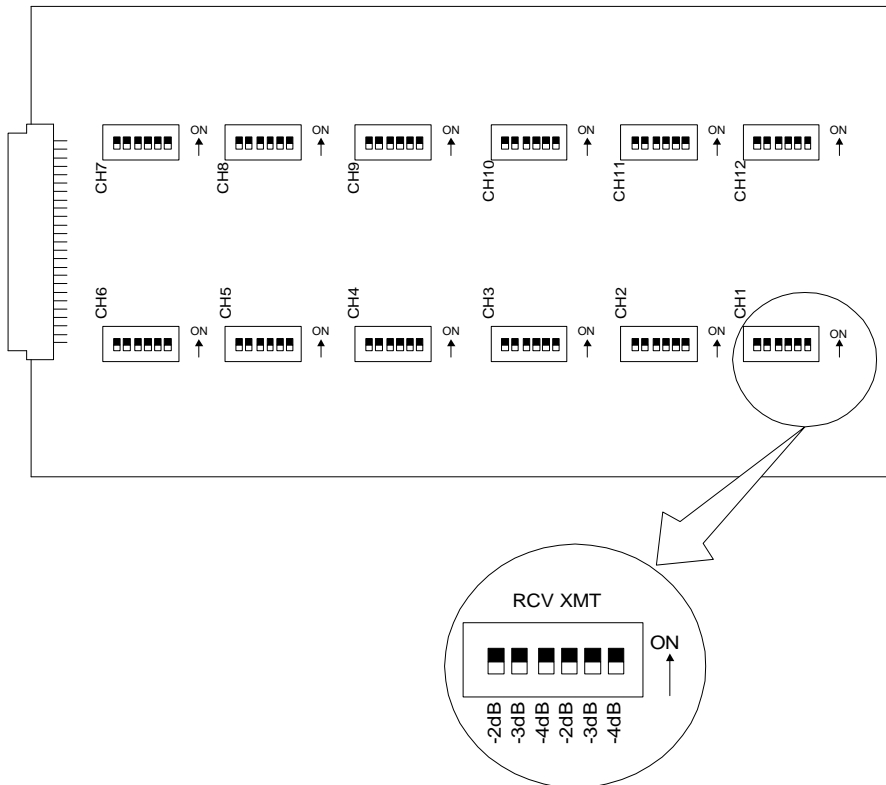

Figure 8-3. BRFXS/DPO Transmit and Receive Level Options
The transmit and receive levels for each BRFXS/DPO voice frequency channel can be set between 0 and -9 dB using twelve 6-position DIP switches (CH1 - CH12) on top of the circuit board card (see **Figure 8-3**). Each analog channel uses a bank of six DIP switches, with three for transmit and three for receive. Operation of each set of three switches in additive. For example, setting switch 1 (-2 dB) and switch 2 (-3 dB) to OFF for any given channel selects a receive loss of -5 dB. The default setting for the transmit level is -3 dB; for the receive level it is -6 dB. The default settings are appropriate for most applications.
3. To set different transmit and/or receive gain or loss levels, refer to **Figure 8-3** and **Table 8-1**.